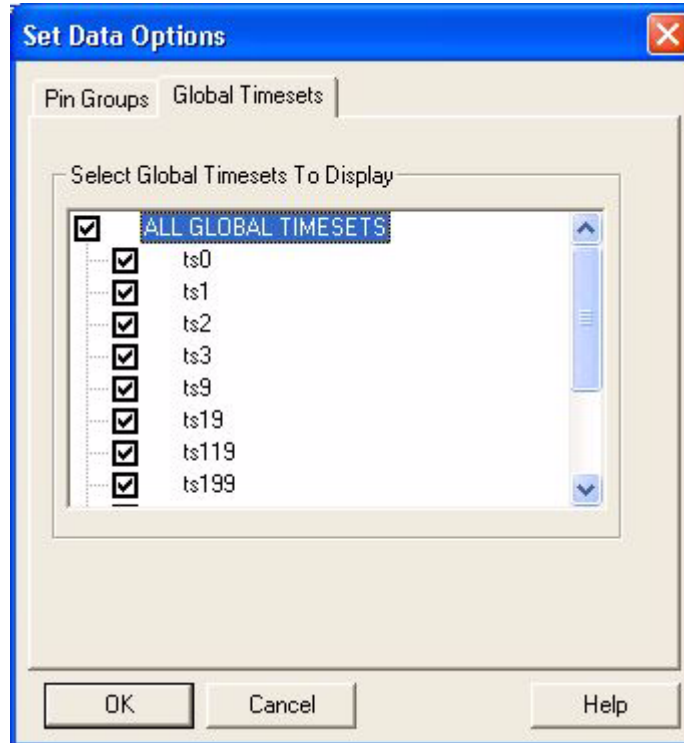

Figure 7-23. Set Options Dialog Box Global Timesets Tab
- Global Timesets tab (similar to Figure 7-23): Lists all global time set for the current set of vectors that can be selected or de-selected to display and then select the button.